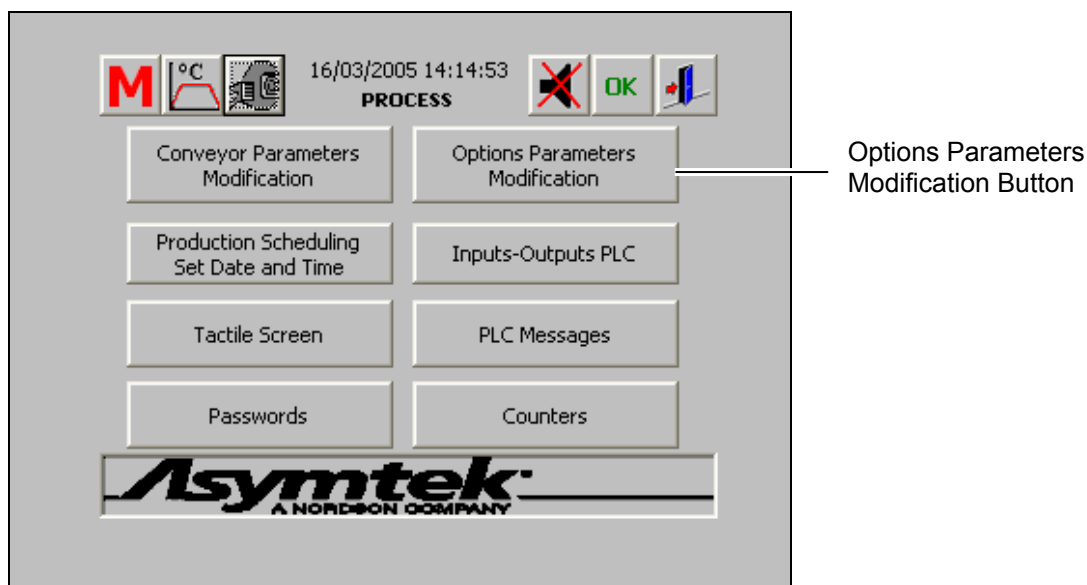

Figure 6-40 Control Menu – Options Parameters Modification Button
1. To adjust the options parameters, on the Control Menu click on the **Options Parameters Modification** button (Figure 6-40).